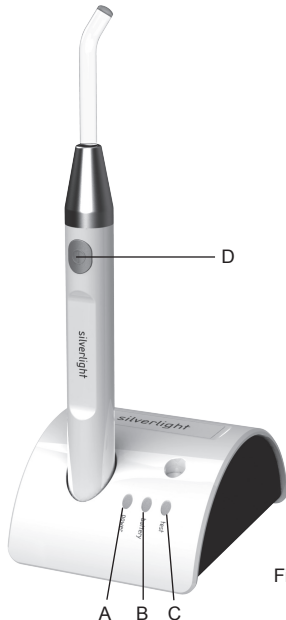
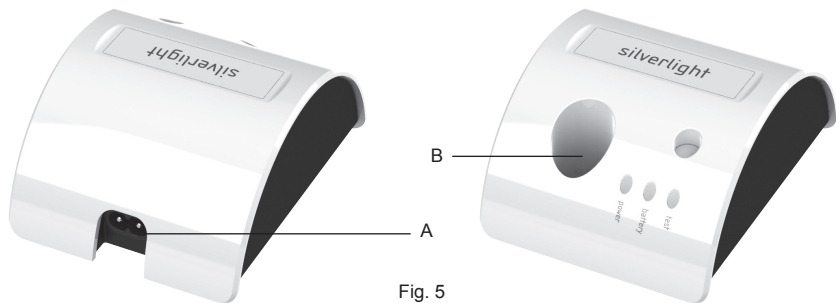

Fig. 4
Fig. 5
**⚠ DANGER:** Do not short circuit the electric contacts of the recharging unit with metal objects (Fig.5 - Ref.B) and do not touch them with your hands while the apparatus is switched on.
Description of the controls (Fig. 4):
2. Plug the power cable (Fig.3 - Ref.E) into the connector on the rear of the apparatus (Fig.5 - Ref.A) and then into the power outlet. The green power LED should light up (Fig.4 - Ref.A).
1. Insert the handpiece into its housing in the recharging unit (Fig.5 - Ref.B). The green battery LED will light up (Fig.4 - Ref.B).
1. Place the handpiece in its housing in the recharging unit (Fig.5 - Ref.B). The green battery LED will light up (Fig.4 - Ref.B).
If the yellow battery LED (check) on the recharging unit lights up, this indicates that the battery has failed (Fig.4 - Ref.C).
After the end of the treatment, place the Silverlight handpiece back into the recharging unit (Fig.5 - Ref.B).